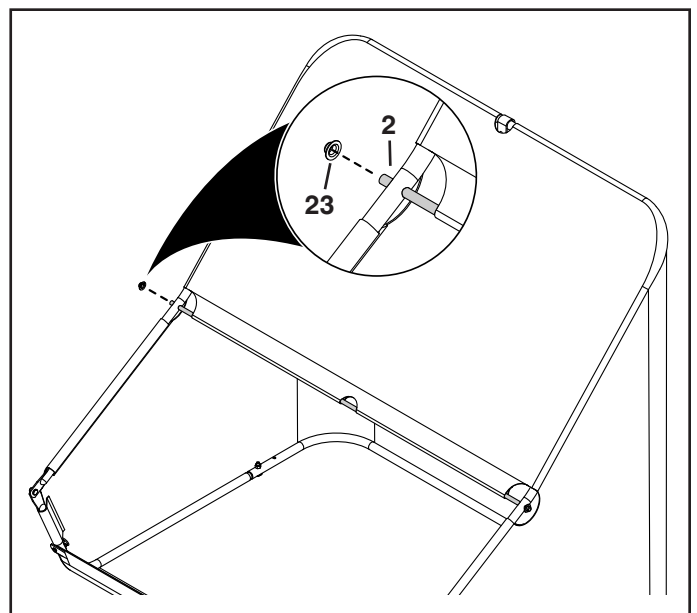

FIGURE 16
STEP 16: (SEE FIGURE 16)
- Slide the pivot rod (2) through the flap in the bag's windscreen first and then through the hole in each upper hopper tube.
- Hammer a palnut (23) onto each end of the pivot rod.